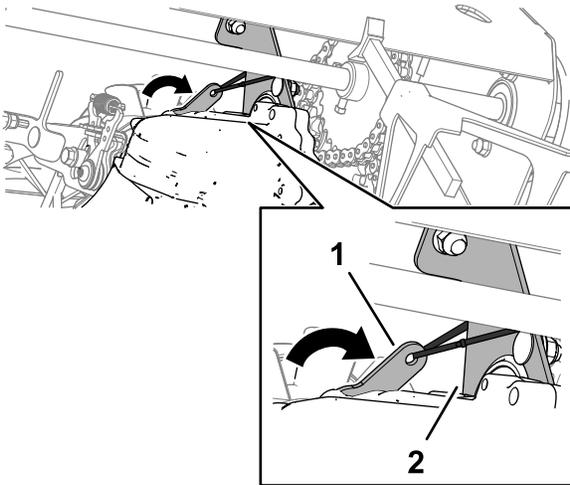

Figure 70
5. Move the bypass lever toward the shaft-support bracket, and secure the lever to the bracket (Figure 70).